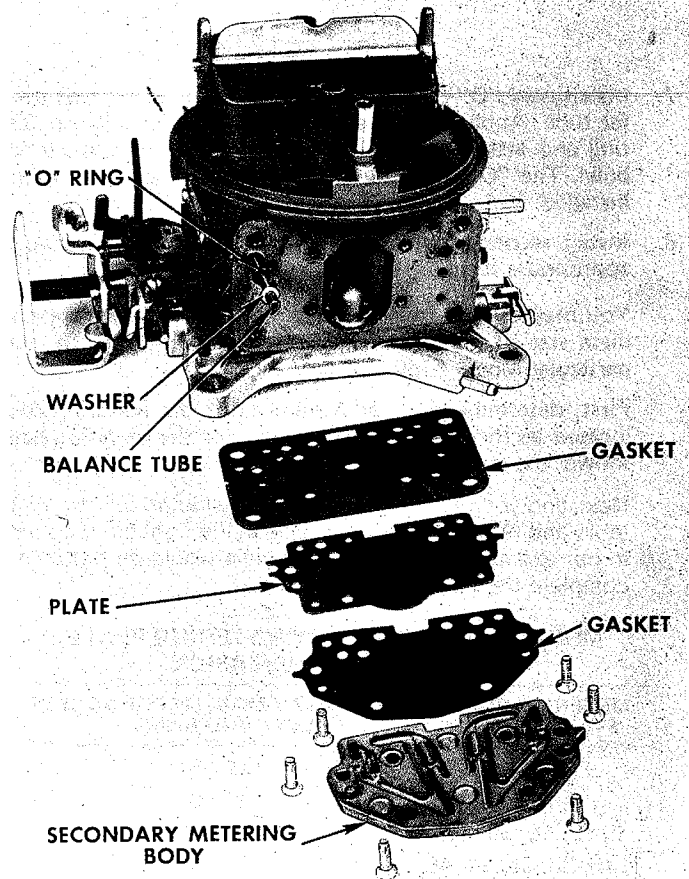

Fig. 3
5. Remove secondary metering body, plate, and gaskets from main body. See Figure 3. **NOTE:** A clutch-head screwdriver must be used. Do not attempt to use a regular screwdriver.
6. Some older Holley Model 4160 carburetors use a balance tube, as shown in Figure 3. If your carburetor is so equipped, remove the balance tube as follows, otherwise proceed to Step 7: